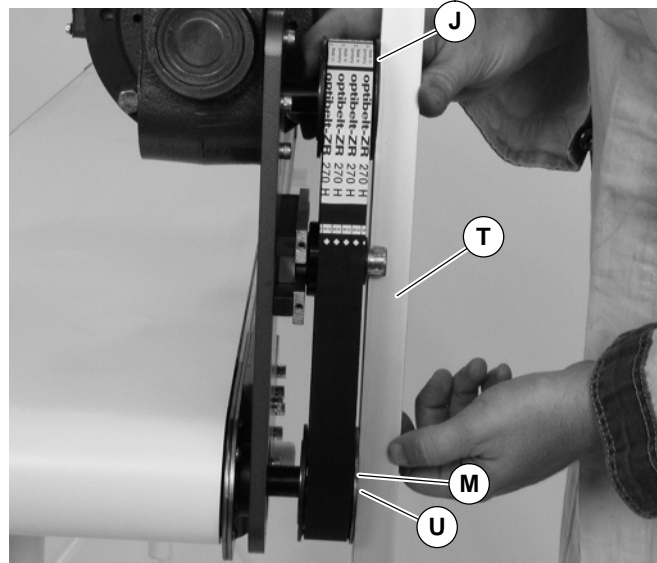

Figure 8
6. Wrap timing belt (P) around driven pulley (M) and drive pulley (J). Install driven pulley (M) onto conveyor shaft.
7. Using a straight edge (T of Figure 8), align driven pulley (M) with drive pulley (J). Tighten driven pulley taper lock screws (U, in pulley hub).